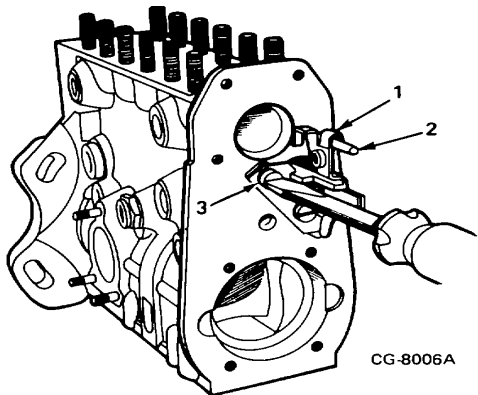

Figure 31.
35. Remove rack screws, lockwashers and retaining plate (Figure 31). Pull rack out of pump housing.